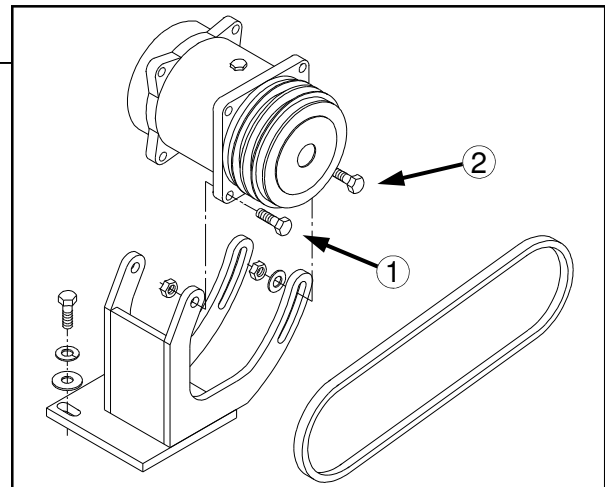

FIG 126-4
A/C COMPRESSOR BELT– To tighten air conditioner compressor belt, loosen the two pivot bolts (fig. 126-4, item 1) and the two slide bolts (fig. 126-4, item 2). Using a suitable prying tool, adjust tension on the belt to the desired tautness. While maintaining tension, re-tighten all four bolts. Inspect belt every 250 hours.